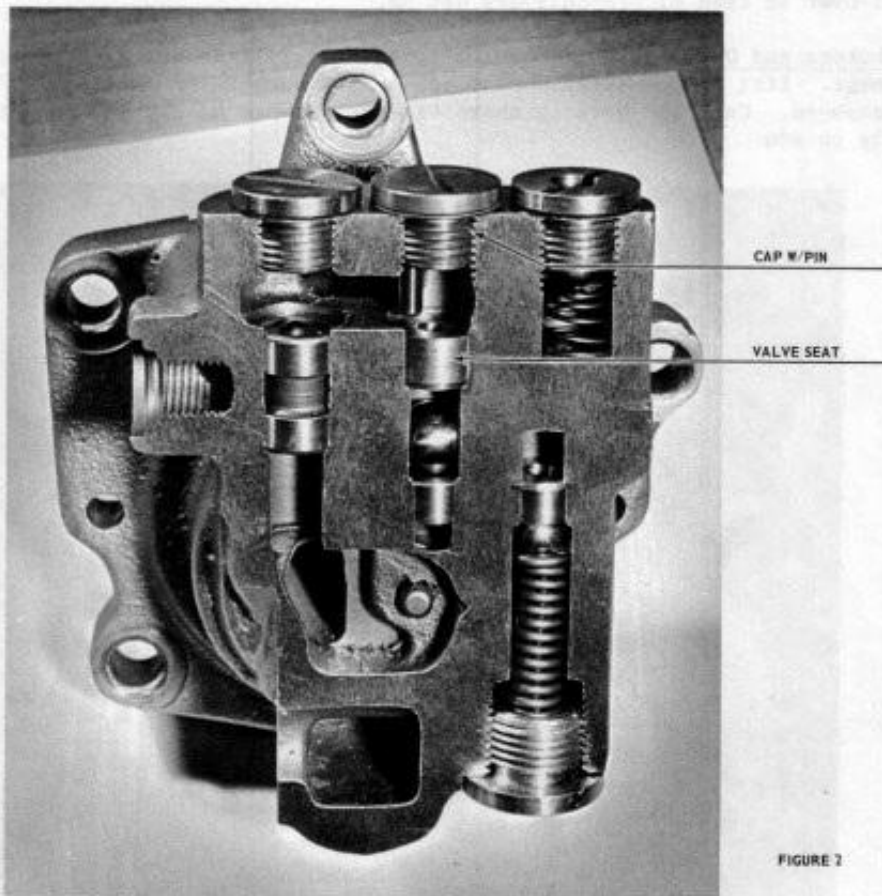

FIGURE 2
4. Refer to Figure 2 (cross section of valve) and note location of valve seat. Check valve seat for proper location, carefully reset with steel punch if necessary. If valve seat has come out, reinstall with chamfered end in first.